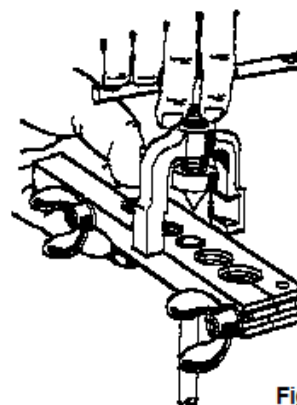
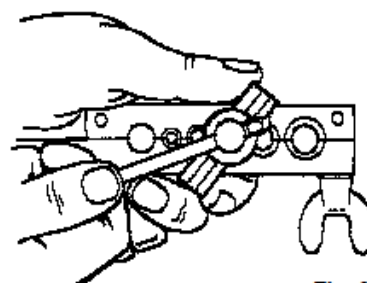

Fig. 1
Fig. 2
4. Insert the tubing into the die of the corresponding size so that it is slightly above the top of the die. Position the bar so that the chamfered side of the dies faces the flaring cone. (See Fig. 1.)
6. Place the yoke over the bar of the tool so that the cone is over the tubing. Note that the yoke of this tool is the Imperial slip-on type which can be slipped directly over the bar without twisting or turning. (See Fig. 1.) The inside edges of the yoke are slotted so that once in position, a slight turn clockwise holds it in place. The yoke should be held in position by the thumb and the forefinger. (See Fig. 2.)